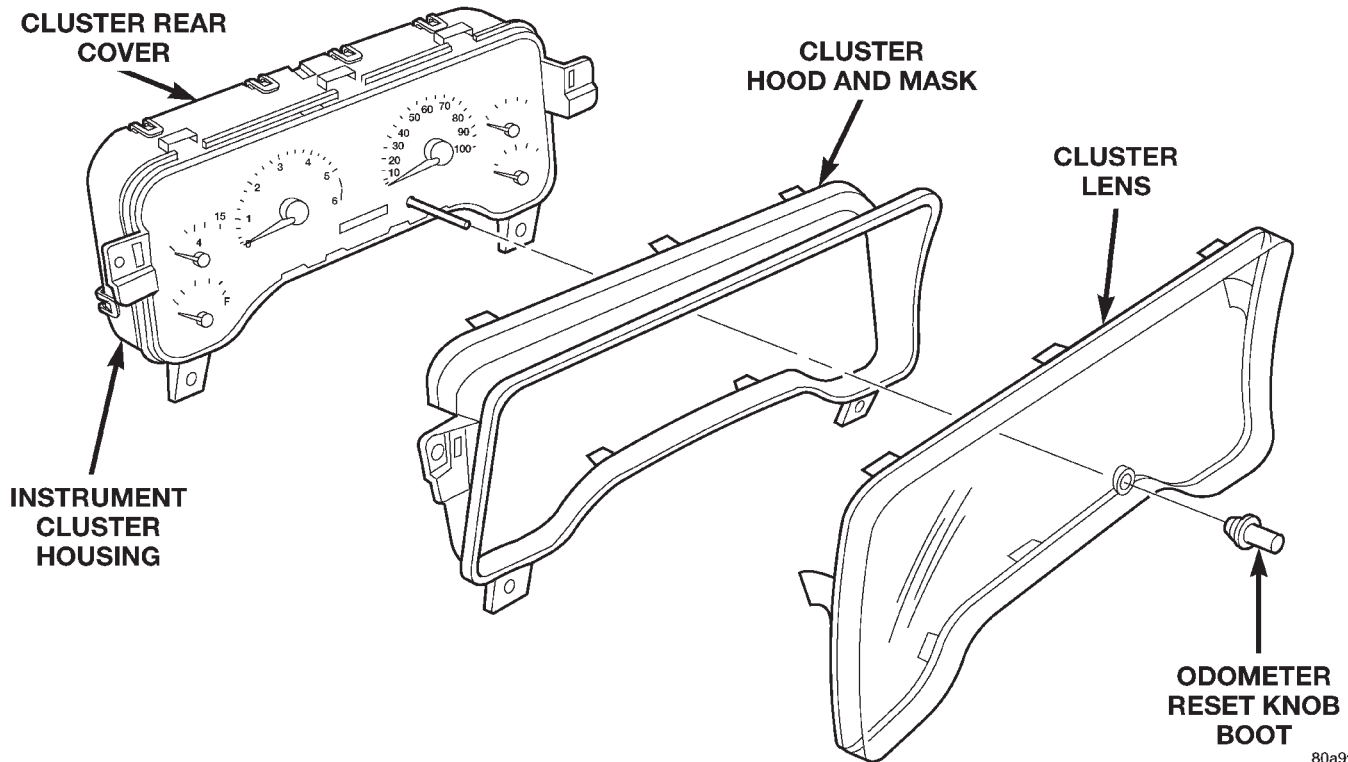

Fig. 11 Instrument Cluster Components
- (1) Disconnect and isolate the battery negative cable.
- (2) Remove the instrument cluster from the instrument panel. Refer to **Instrument Cluster** in the Removal and Installation section of this group for the procedures.
- (3) Work around the perimeter of the cluster housing to disengage each of the latches that secure the cluster lens to the cluster housing (Fig. 11).
- (3) Remove the cluster lens from the cluster housing. Refer to **Instrument Cluster Components - Cluster Lens** in the Removal and Installation section of this group for the procedures.
- (4) Work around the perimeter of the cluster housing to disengage each of the latches that secure the cluster hood and mask unit to the cluster housing (Fig. 11).
- (5) Gently pull the cluster hood and mask unit away from the cluster housing.
- (3) Work around the perimeter of the cluster housing to disengage each of the latches that secure the rear cover to the cluster housing (Fig. 11).
- (4) Gently pull the rear cover away from the back of the cluster housing.